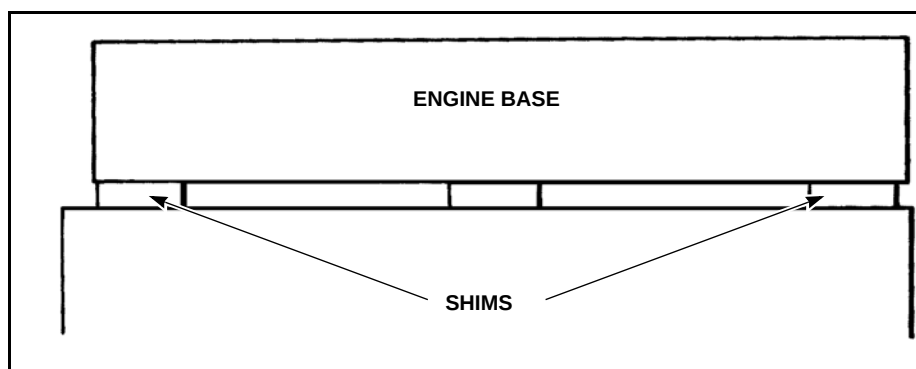

Figure 2-20 Level Engine Base With All Natural Sag Removed
- If the dial indicator has not been moved or bumped, it should read positive by the correct amount from when it was first zeroed. The engine base is now level with all natural sag removed (see Figure 2-20).